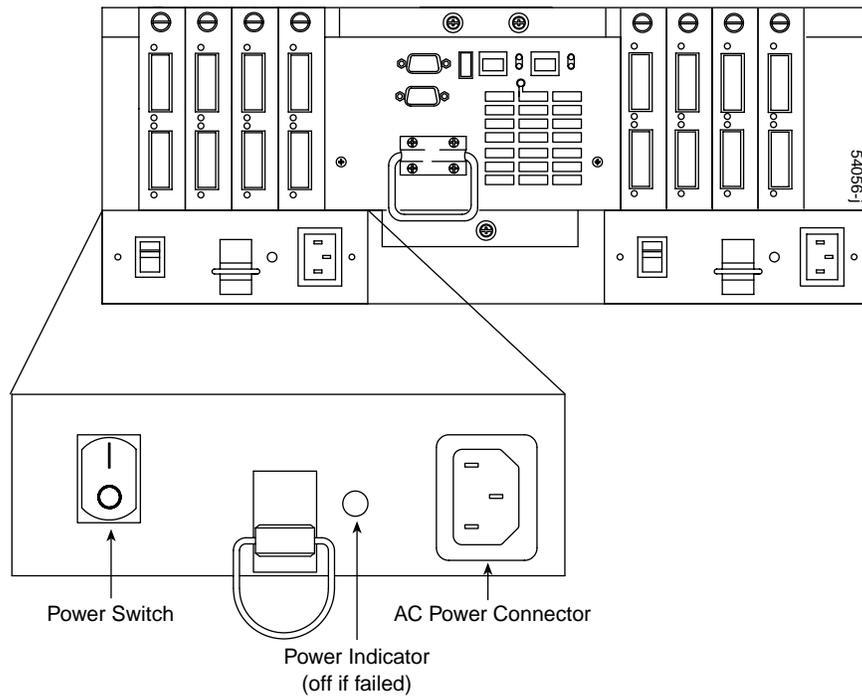

Figure 4-10 Power Supply Switch, Connector, and Indicator
2. Check the Power indicator on the power supply at the rear of the controller enclosure (Figure 4-10). The green Power indicator on the failed power supply will be off.
3. Turn off the power switch and unplug the power cord from the failed power supply (Figure 4-10).
8. Plug in the power cord and turn on the power (Figure 4-10).